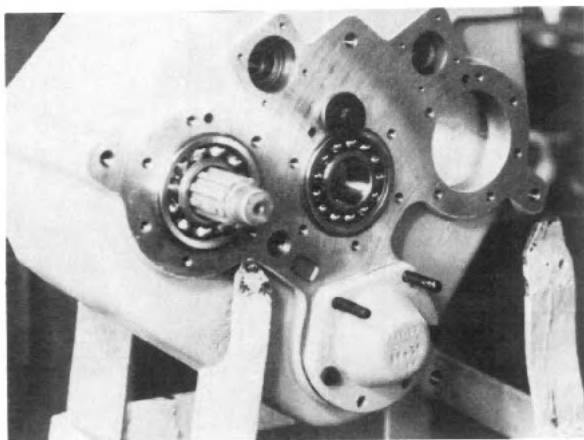

Fig. 8
1. Install the double row ball bearing in the housing bore opposite the large opening at the rear of the case. Retain the bearing with a bolt and washers as shown in Fig. 8.